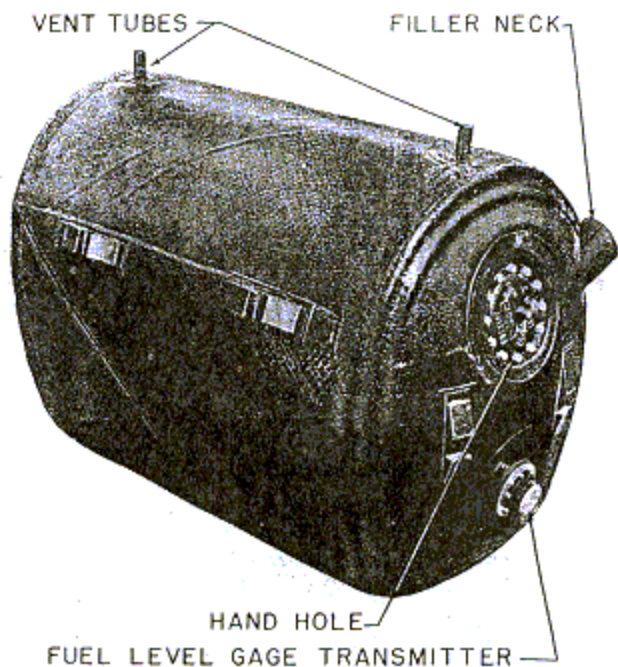

Figure 205—Fuselage Tank—Right Front View
21. Move the tank as far forward as it will go and start to tip the rear of the tank upward. Work the tank back and up until it is in a vertical position. Lift the tank straight up out of the cockpit. (See figures 205 and 206.)